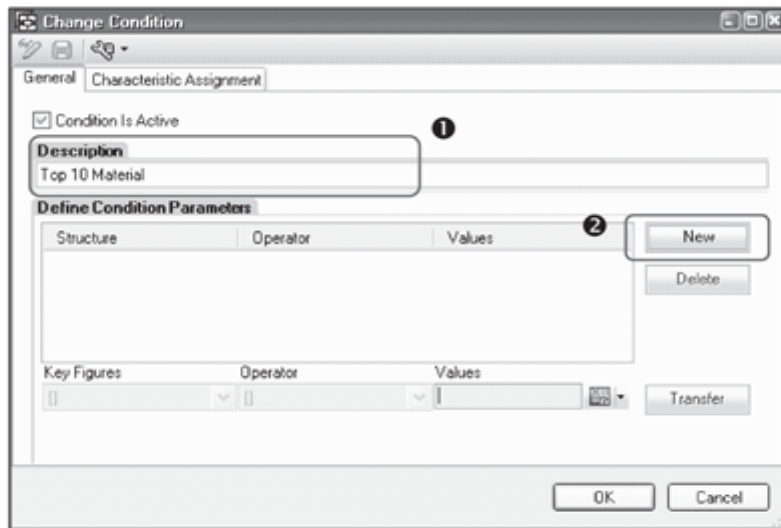

Figure 9.81 Change Condition
2. To create a new condition, open the context menu from the Conditions screen area, and select New Condition (❸). This creates a new condition with a system generated description (❹). To edit and define this condition, double-click on it or select Edit from the context menu (❺).
3. The Change Condition screen appears (see Figure 9.81). The condition defined is applied only if the Condition Is Active checkbox shown in Figure 9.81 is selected.
You can now maintain the Description for the condition (❶ of Figure 9.81). Click on the New button (❷) to create a new condition parameter; where you can define the logic for the condition.